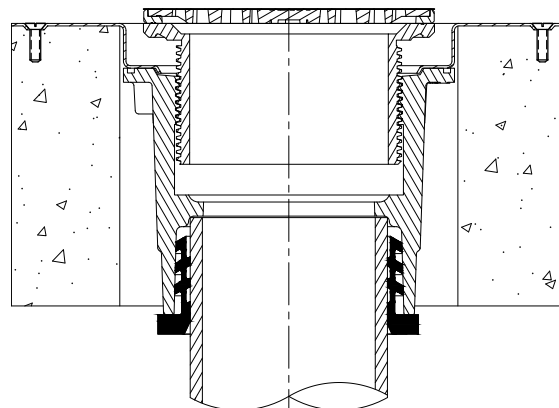

Fig. 7A
7. Adjust head assembly to the height of the finish floor. See Fig. 7A